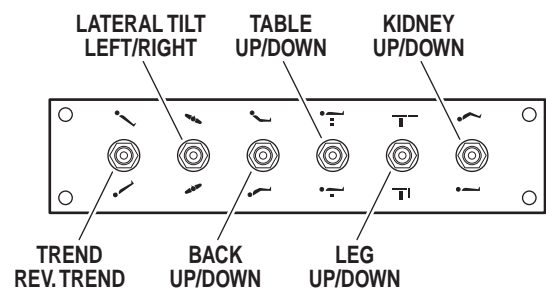

Figure 3-4. Emergency Back-Up Controls
b. In the event of either a power failure or a problem with the hand-held pendant control, the table can be operated using the emergency back-up switches. Simply push the desired emergency switch in the appropriate direction to operate the table functions. See figure 3-4. These switches are spring-loaded so they return to the neutral or center position when released.